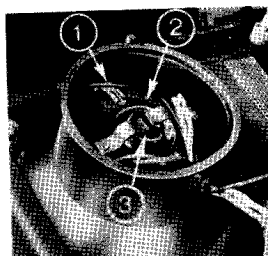

FIG. 37
4. Fig. 37. Remove the earth wire (1) to free the clamping plate (2), then remove the bulb (3).